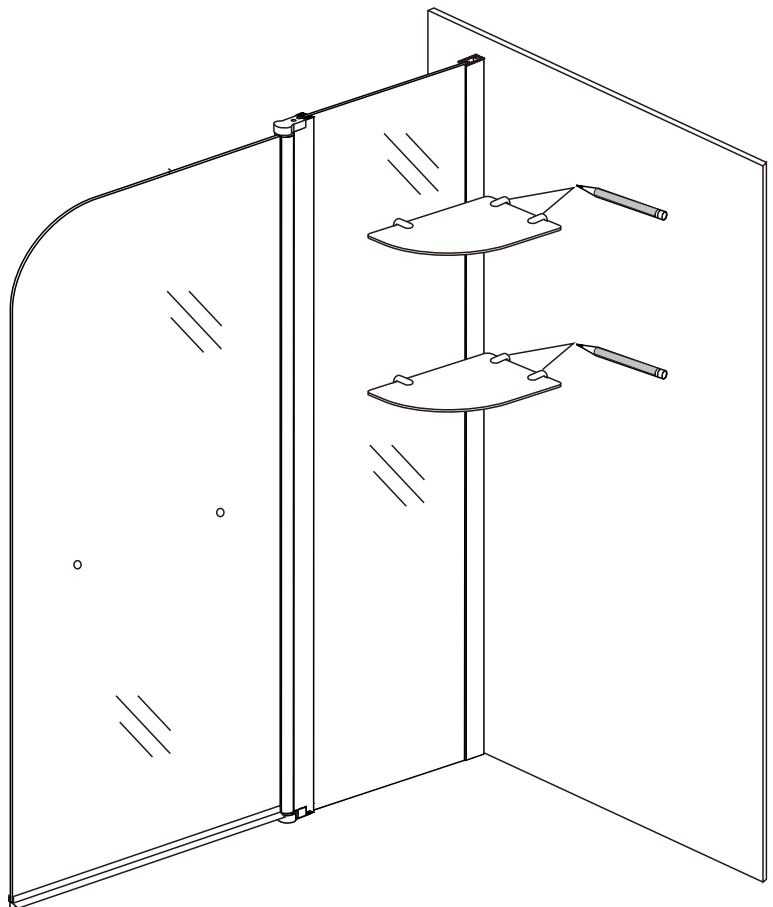

Fig 8
1. Install **Glass Shelves [06]** with **Brackets [15]** to the **Bracket Set [16]** and wall. (Fig 8)